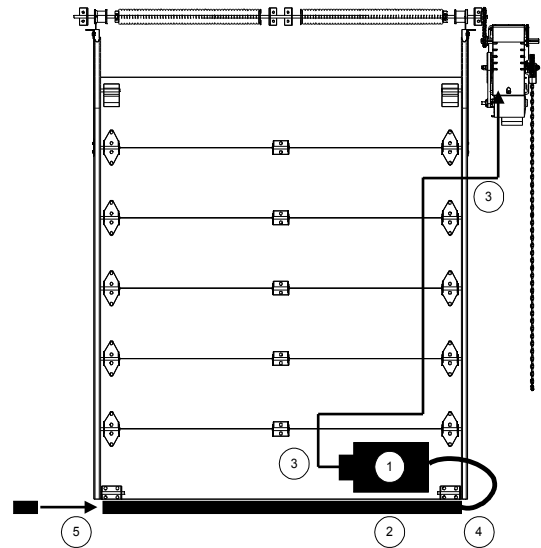

Figure 19 - Reversing Edge
1. Place the air switch in position, refer to Figure 19.
1. Place the junction box in position, refer to Figure 19.